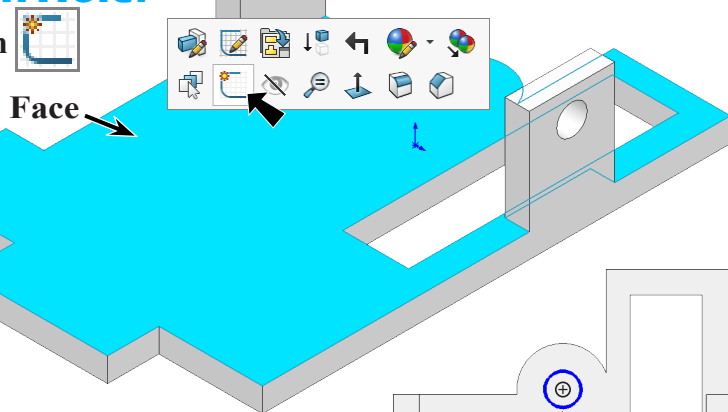
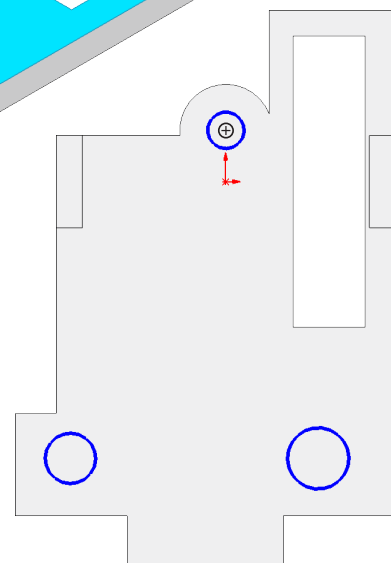

Fig. 30
Fig. 31
Step 1. Click the **top face** and click **Sketch**  on the context toolbar, **Fig. 30**.
Step 3. Click **Circle**  (S) on the Sketch toolbar.
Step 4. Sketch a **circle at centerpoint of arc** and **two circles at bottom**, **Fig. 31**. To wake up centerpoint, hover cursor over circular edge.